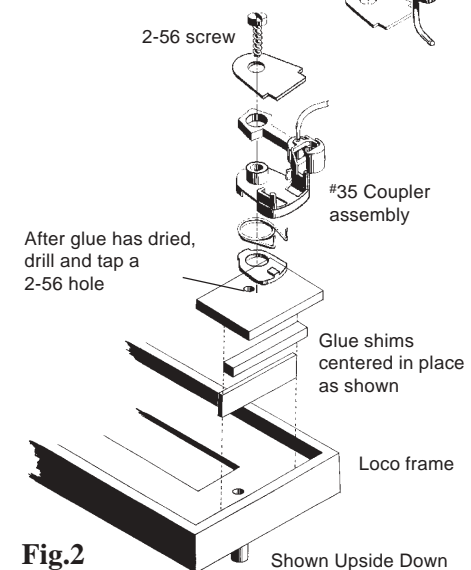

Fig.2
6. Cut 2 pieces of .080" shim stock, one piece .545" x .440" and one piece .080" x .440". Cut one piece of .060" shim stock .180" x .440". Burnish the chassis area to be glued. Using an appropriate cement, glue the pieces into position, see Fig. 2. When glue has set, measure, mark and drill and tap a 2-56 hole, .290" from the front, .150" from the rear and .275" from the side.